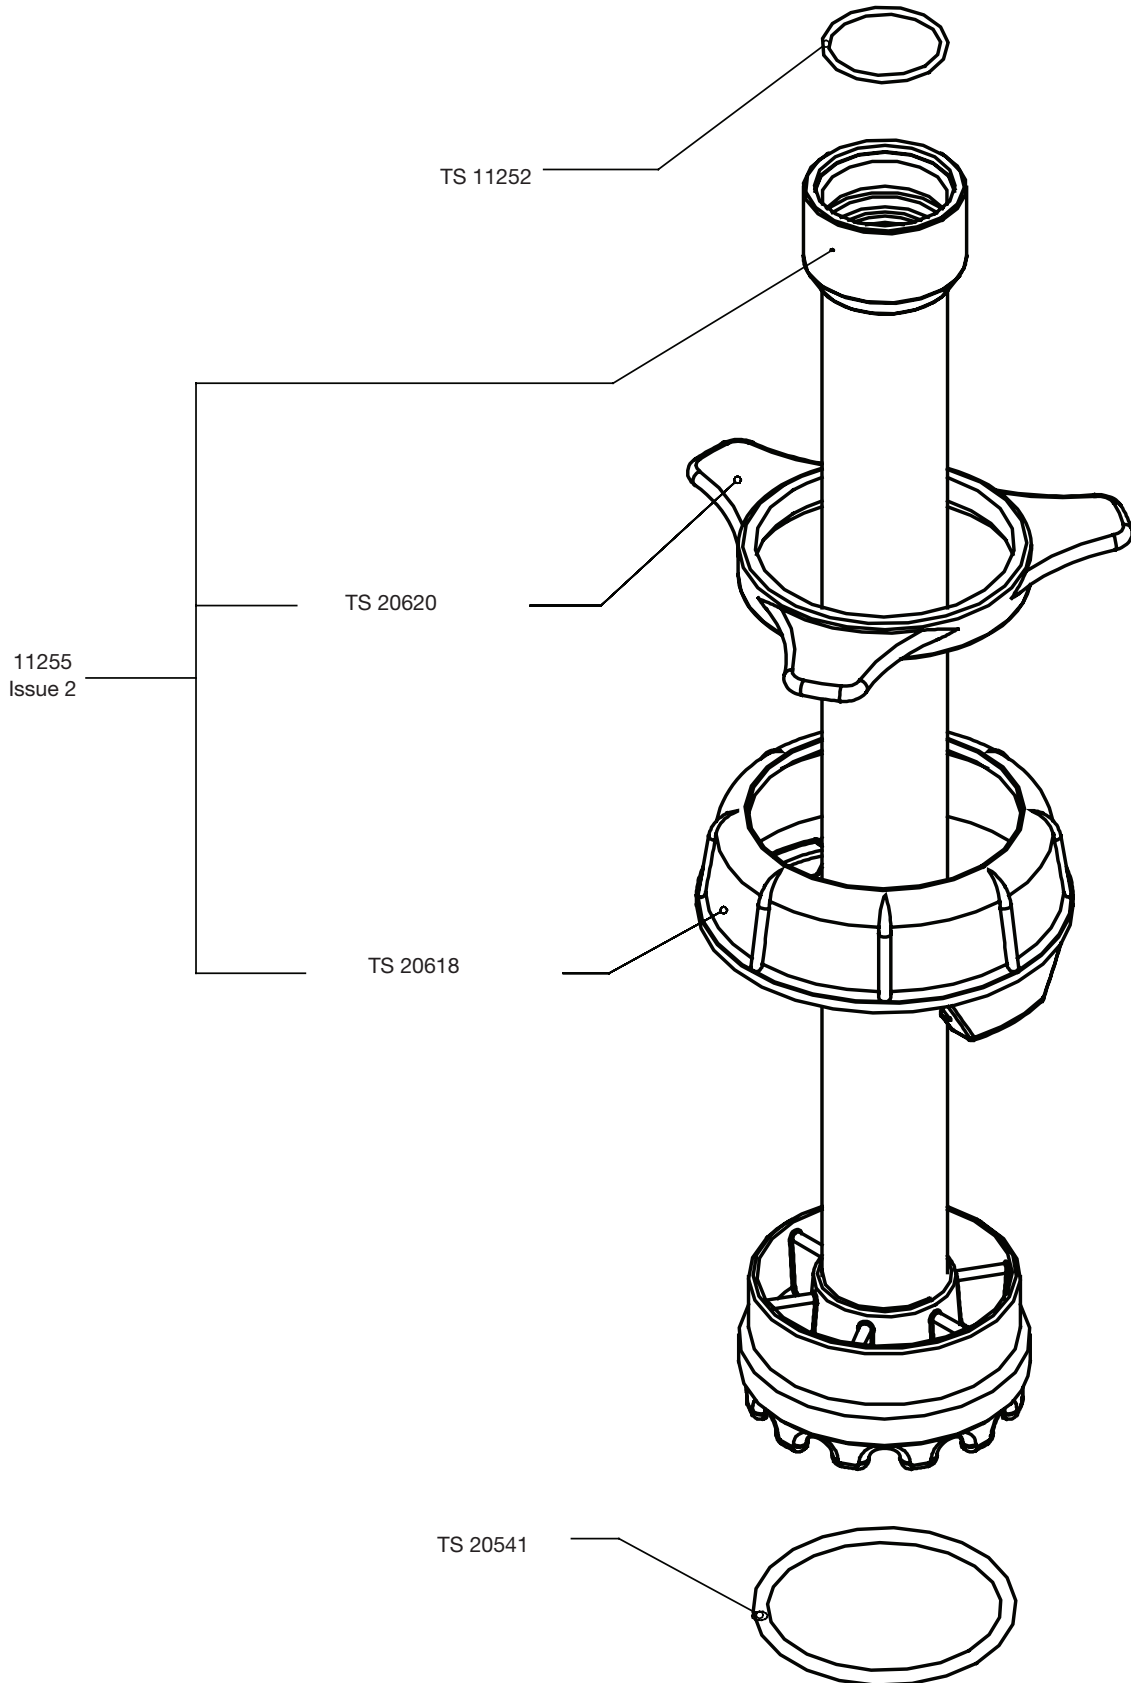

Figure 13-6: storage tube SS1-Q2 TS 10183, details
- Figure 13-6: storage tube SS1-Q2 TS 10183, details